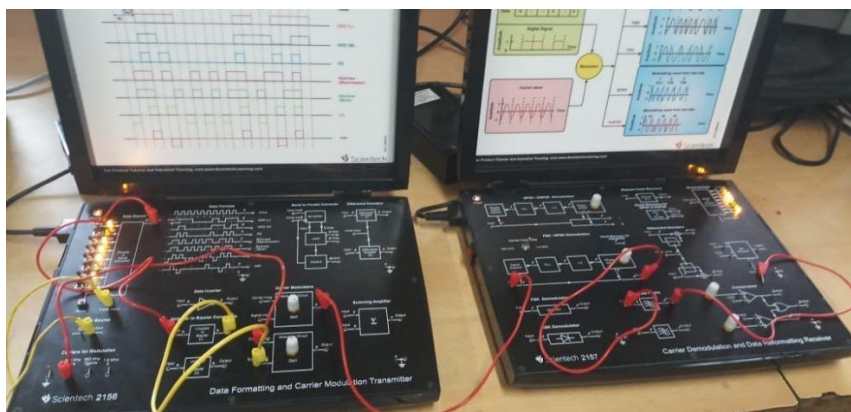

Figure17.4: Practical set up for PSK/BPSK modulation and demodulation
1. Make connections as shown in figure 17.4